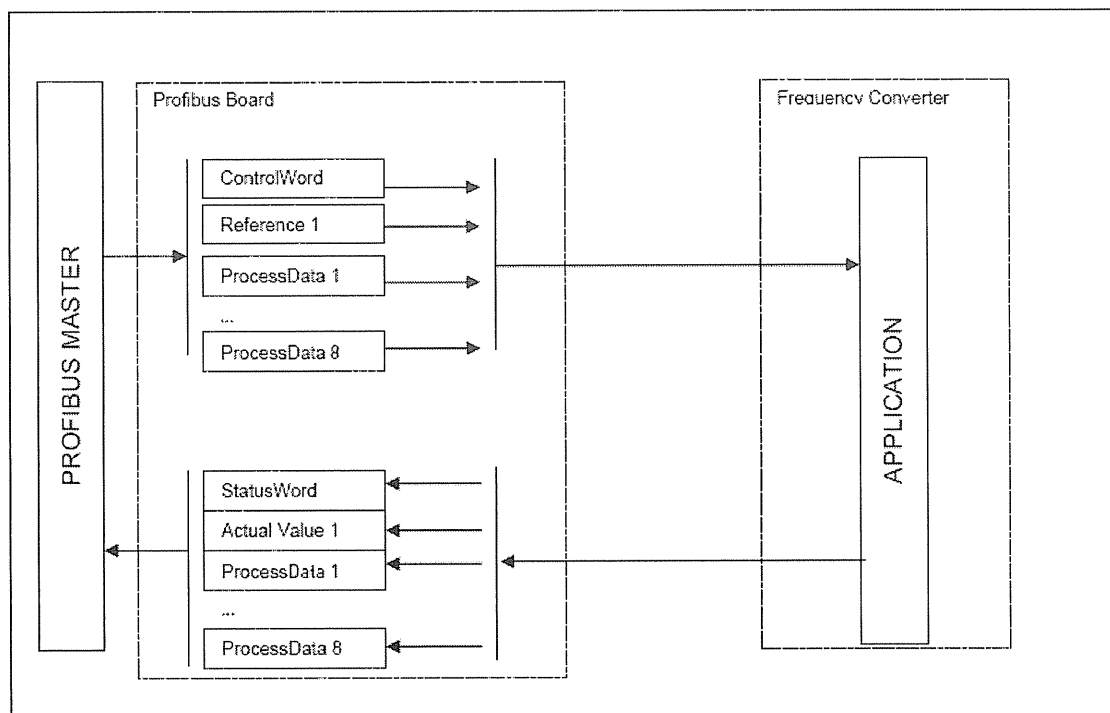

Figure 7-2. Control of the Frequency Converter through Profibus
With the help of the StatusWord (SW) read by the Master, the status of the device can be seen. Actual Value (ACT) and PD1 to PD8 show the other actual values. See Figure 7-2.